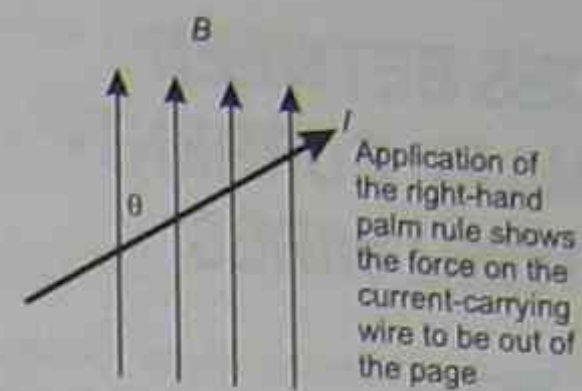

Figure 2.7 Angle between magnetic field and length of conductor
- 1 the strength of the magnetic field (B) in which it is situated;
- 2 the magnitude of the current (I) in the conductor;
- 4 the angle (θ) between the direction of the external magnetic field and the direction of the length of the conductor (Figure 2.7).